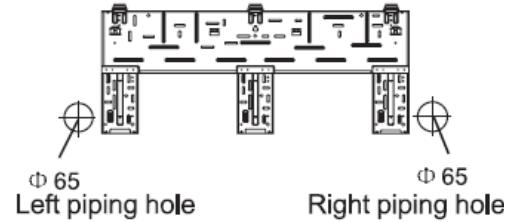

Fig.1
1. Make the piping hole (Φ65) in the wall at a slight downward slant to the outdoor side. (Shown in Fig.1)